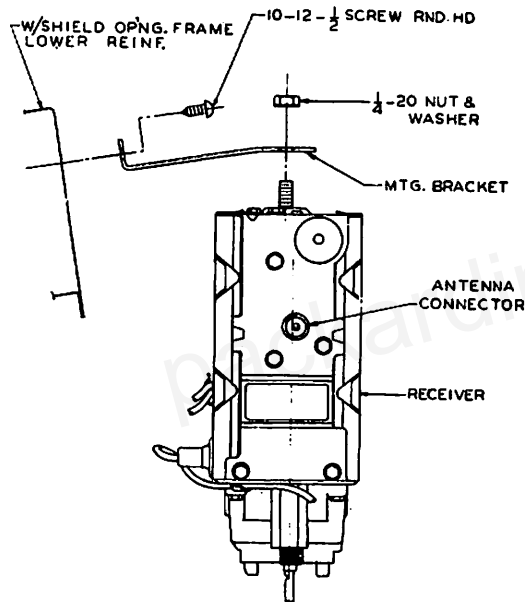

Figure 1
2. Mount the "L" shape bracket to stud on rear of control head using  $\frac{1}{4}$ -20 nut and lockwasher. Lift set up behind the instrument panel and guide the volume control and manual control shafts through the instrument board openings. Attach the "L" bracket to the underside of the defroster duct with No. 10 x  $\frac{1}{2}$  sheet metal screw. See figure 1.